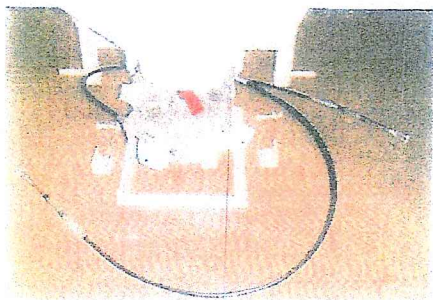

Figure 3
6. See Figure 3: Place dual-opening banding kit base plate (1111) on gearcase shaft with opening plates next to fan.